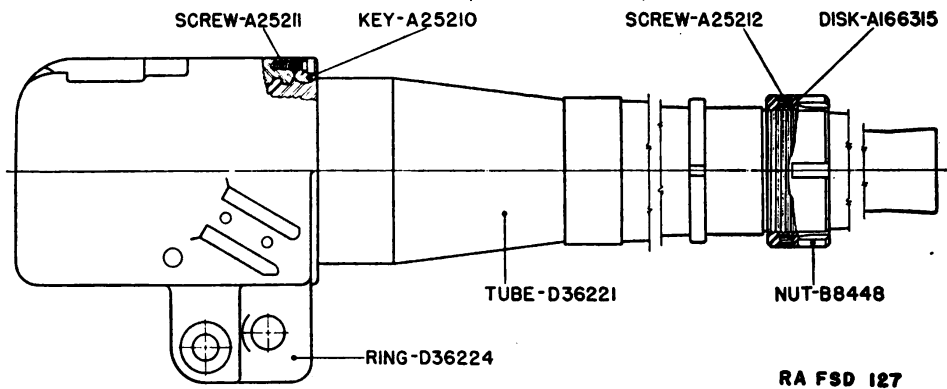

FIGURE 6.—37-mm gun, M3.
**30. Removal of gun from sleigh.**—Remove the set screw (A25212, fig. 6) from nut (B8448). Remove the nut with spanner wrench. Remove disk (A166315). Push the gun to the rear through the yokes of the sleigh. Remove key from front yoke of sleigh.
**31. Assembly of gun to sleigh.**—Push the gun through the yokes of the sleigh with key in place in front yoke. Assemble nut (B8448, fig. 6) and disk (A166315) and tighten with spanner wrench and lock with the set screw (A25212).